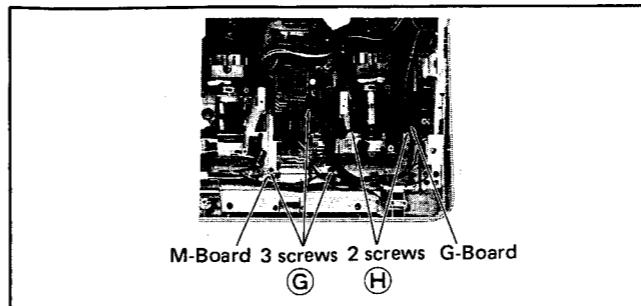

Fig. 8
- Remove 3 screws **G** in fig. 8.
- Remove 2 screws **H** in fig. 8.